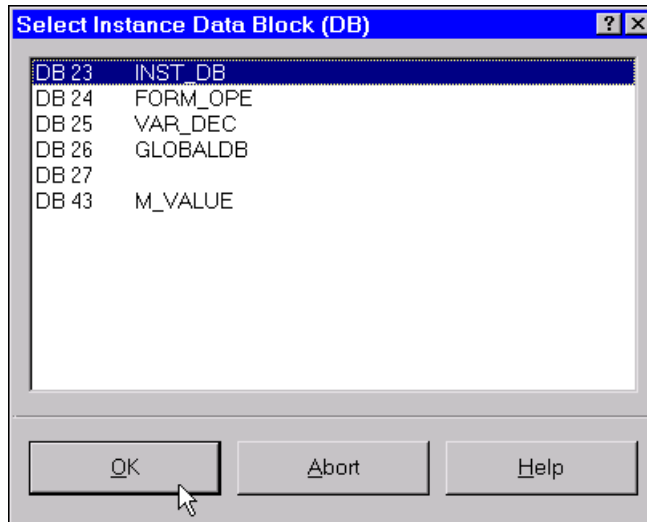

Figure 5-8 Select Instance Data Block (DB) dialog box
- ◆ Mark the Data Block that you want to assign to the Function Block (FB) as its Instance Data Block and confirm with the **OK** button.
An example of the Select Instance Data Block (DB) is shown in figure 5-8. The figure 5-11 shows the STL presentation of an FB Call with an Instance DB.